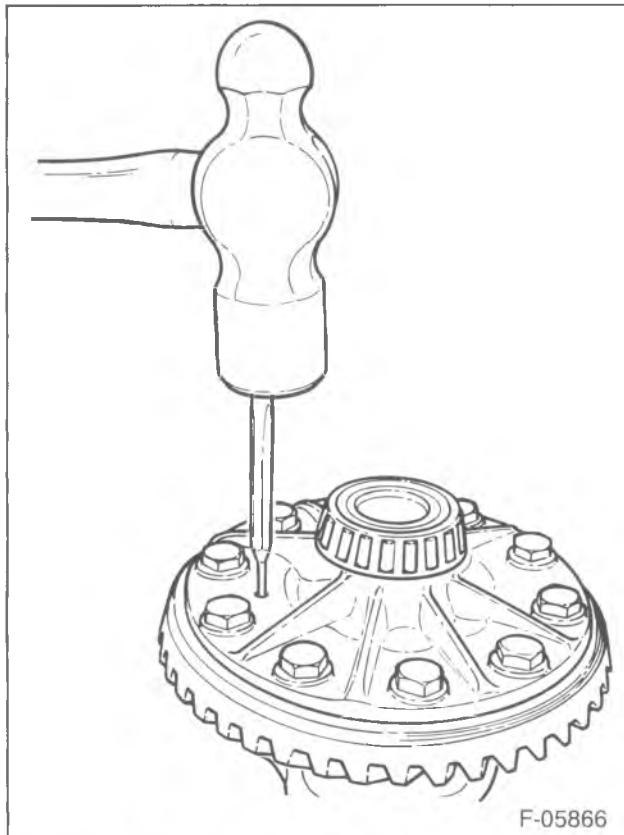

Figure 18—Removing the Pin (K15-25 Models)
33. Ring gear (37) from the differential case.
34. Roll pin (36) (K15-25 models). Drive out with a drift and hammer (figure 18).